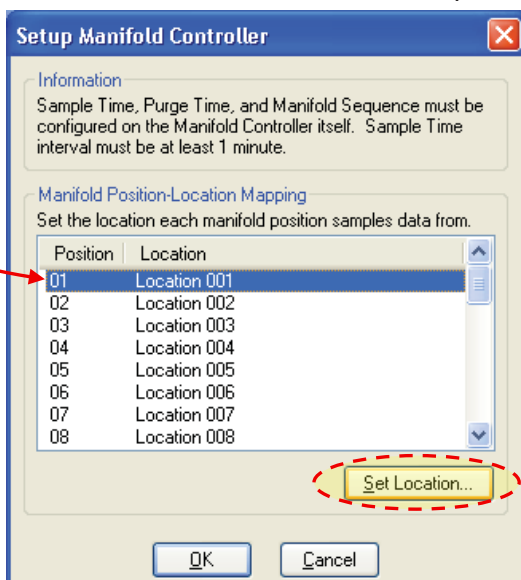

Figure 10-48 Setup Manifold Controller Position
- **Click** OK to return to the Setup Manifold Controller window Figure 10-48.